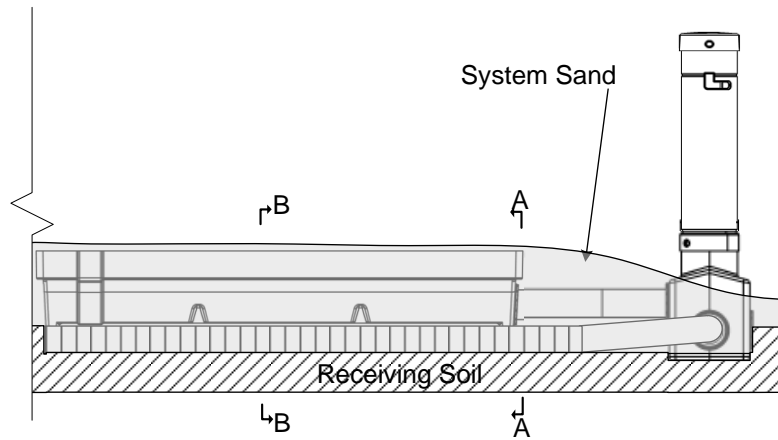
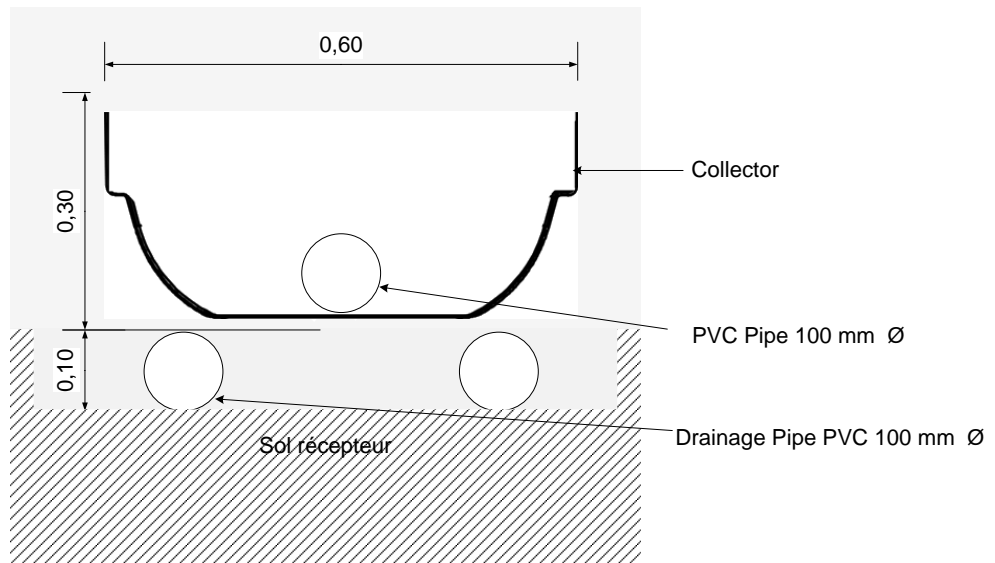

Fig. 55 – Position of cross-sections
Fig. 57 – Cross-section BB
- See Fig. 55 through Fig.57 for other views of the sampling device once installed.